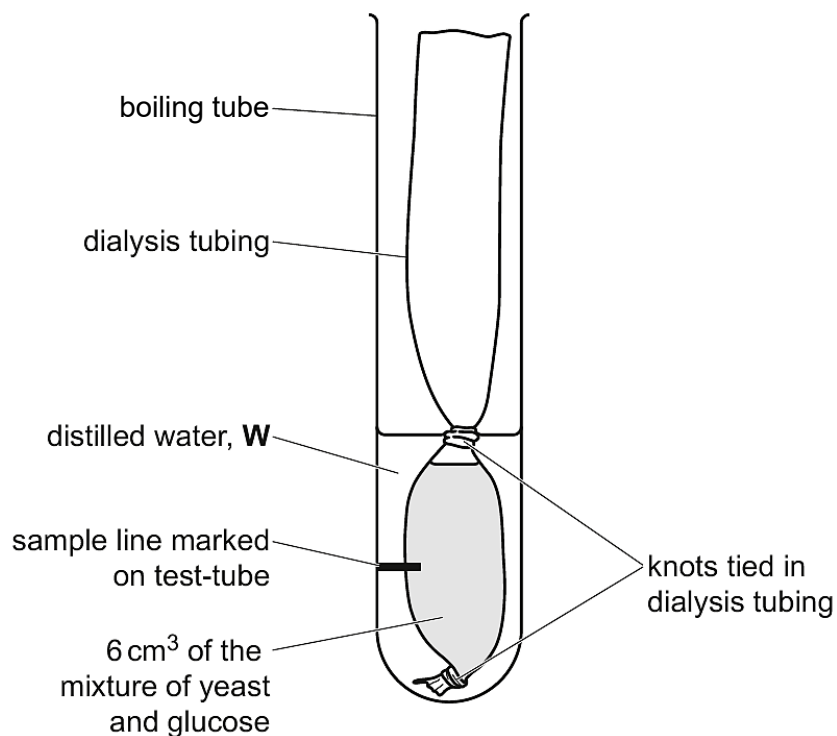

Fig. 1.3
Fig. 1.3 shows the apparatus you will set up for this investigation.
Look carefully at Fig. 1.3 to help you with step 13 to step 15.
- step 13 Tie a knot just above the level of the mixture in the dialysis tubing, as shown in Fig. 1.3.
- step 14 Put the dialysis tubing into a clean boiling tube so that it is resting on the bottom of the boiling tube, as shown in Fig. 1.3.
- step 15 Draw a line on the boiling tube so that it is half-way between the two knots, as shown in Fig. 1.3. This is where you will take your samples from.